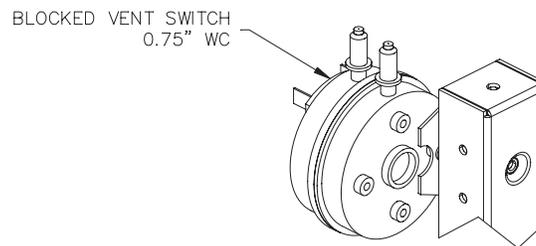

Figure 40. Blocked Vent Switch
1. Gas manifold pressure is measured at the pressure tap between the gas valve and gas orifice (See **Figure 40**).